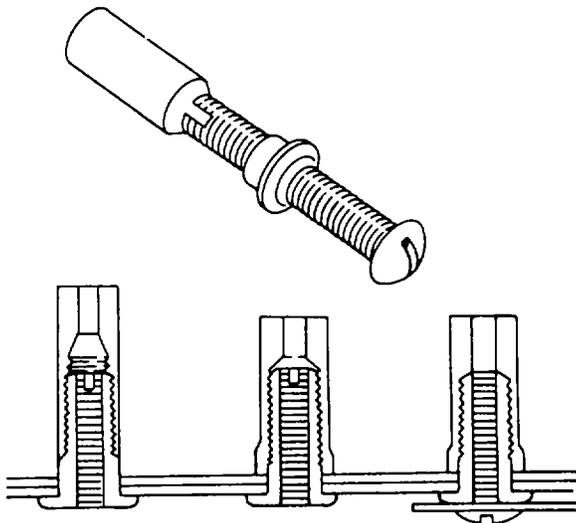

Figure 2-62. Dill Lok-Skru Fastener
(1) Cam collar. The cam collar consists of an aluminum alloy forging mounted in a stamped sheet metal base. It is permanently attached to the structure by means of a dimpled or countersunk hole which prevents the collar from extending above the mounting surface.
(2) Grommet. The grommet is a flanged ring made to fit into a dimple in the removable member of an assembly.
(3) Stud assembly. The stud assembly consists of a stud, cross pin, spring, and a spring clip. This factory-assembled component shall not be disassembled. The assembly is inserted into the grommet by compressing the spring. The spring must be compressed in order to get the stud assembly out of the grommet.
c. Dill Lok-Skru. Dill Lok-Skru as shown in figure 2-62 is a cowling fastener used for quick removal and replacement.